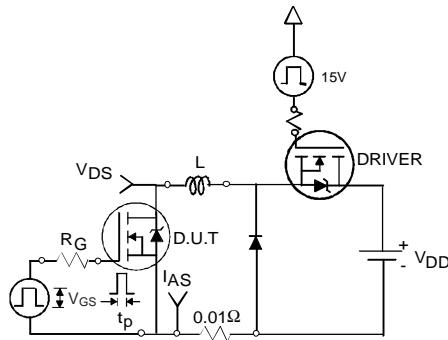

Fig 12a. Unclamped Inductive Test Circuit
3. Equation below based on circuit and waveforms shown in Figures 12a, 12b.
- ② Limited by T_{Jmax} , starting $T_J = 25^\circ C$, $L = 0.18mH$ $R_G = 25\Omega$, $I_{AS} = 18A$, $V_{GS} = 10V$. Part not recommended for use above this value.
- ③ Pulse width $\leq 1.0ms$; duty cycle $\leq 2\%$.
- ④ $C_{oss\ eff}$ is a fixed capacitance that gives the same charging time as C_{oss} while V_{DS} is rising from 0 to 80% V_{DSS} .
- ⑤ Limited by T_{Jmax} , see Fig.12a, 12b, 15, 16 for typical repetitive avalanche performance.
- ⑥ This value determined from sample failure population. 100% tested to this value in production.
- ⑦ When mounted on 1" square PCB (FR-4 or G-10 Material). For recommended footprint and soldering techniques refer to application note #AN-994